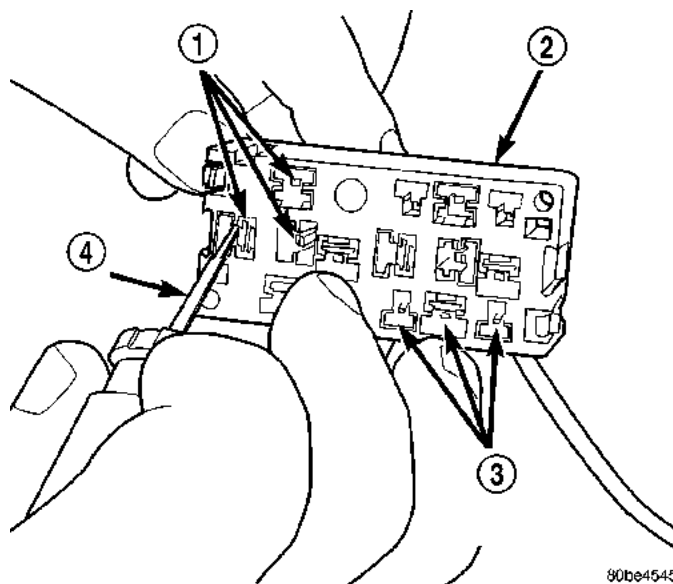

Fig. 15 PDC Relay Cassette Terminal Remove/Install
(4) While pulling gently on the wire from the bottom of the faulty PDC relay cassette, use a terminal pick tool (Special Tool Kit 6680) from the top of the relay cassette to release the latch that secures the terminal in the relay cassette terminal cavity (Fig. 15).
(5) From the bottom of the faulty PDC relay cassette, remove the wire and terminal from the relay cassette terminal cavity.
(6) Make all necessary repairs and splices to the wire for the removed terminal. Refer to **Wiring Repair** in the index of this service manual for the location of the proper wiring repair procedures.
(7) From the bottom of the PDC housing, align and insert the removed wire and terminal into the correct terminal cavity of the replacement relay cassette. Push the wire and terminal up into the relay cassette terminal cavity until it is fully engaged by the latch.
(8) Repeat Step 4, Step 5, Step 6 and Step 7 one wire and terminal at a time until each of the wires and terminals have been transferred from the faulty PDC relay cassette into the replacement relay cassette.
(9) Install the PDC relay wedge into the replacement PDC relay cassette.